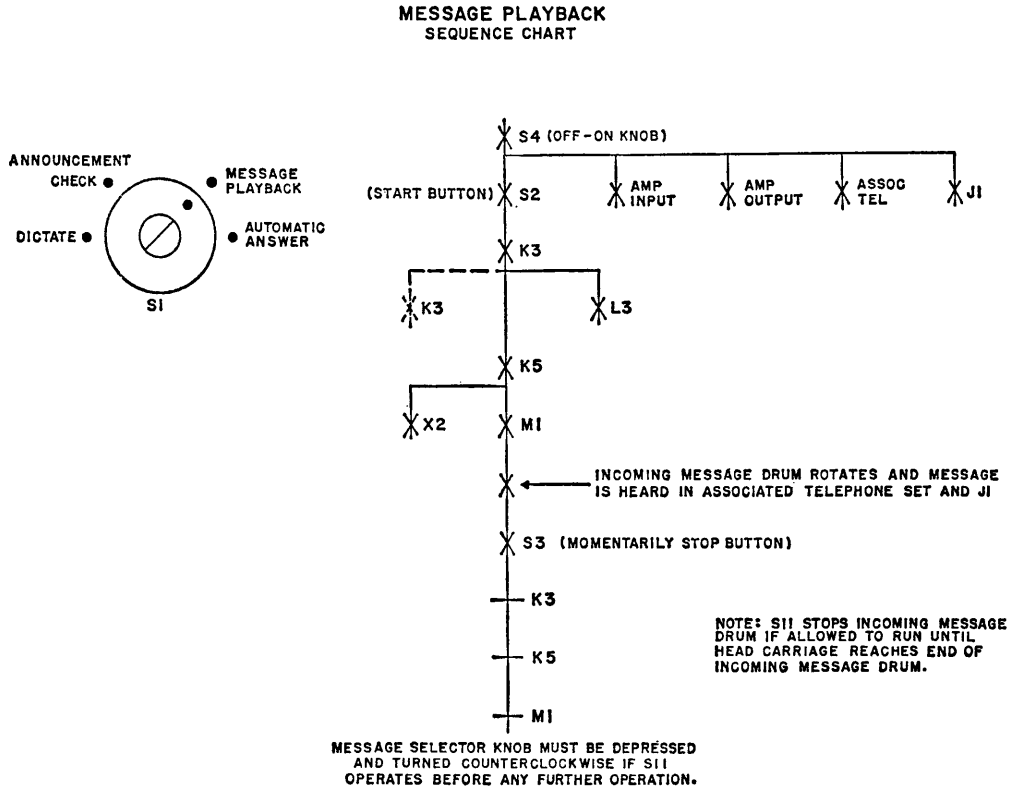

Fig. 5
- Message Playback (Fig. 5 and 6)
Fig. 5 and 6